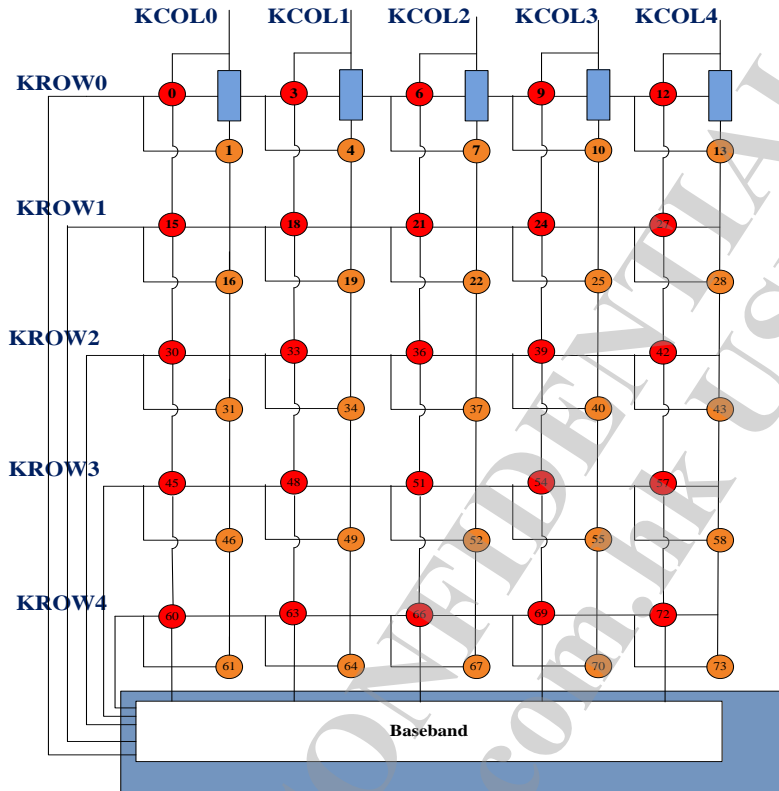
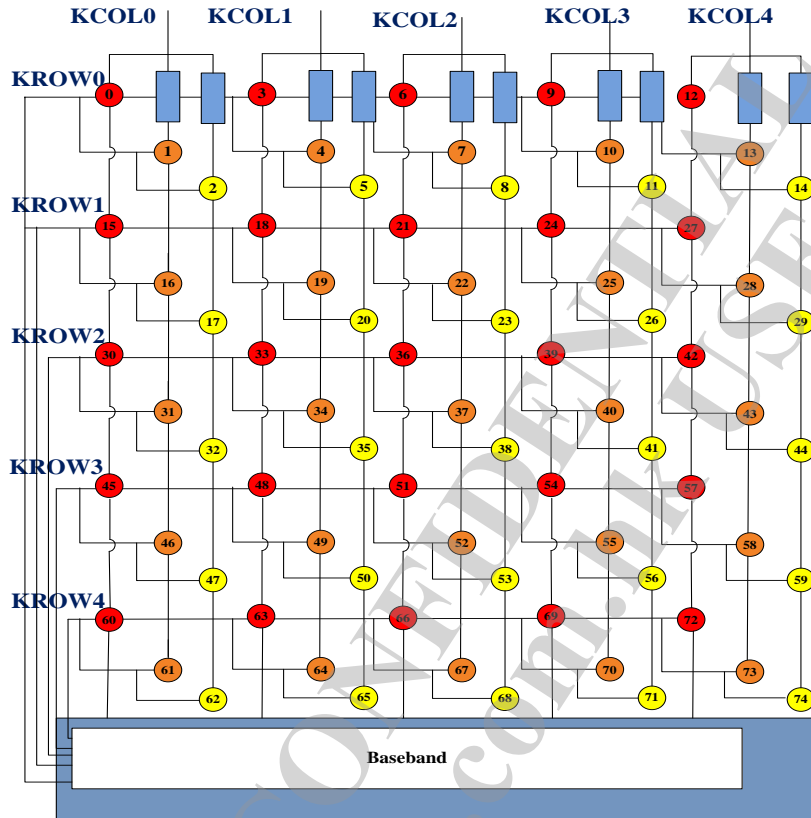

Figure 24. 5x5 double keypad matrix (50 keys)
Figure 25. 5x5 triple keypad matrix (75 keys)
The 5*5 keypad can be divided into two parts: 1) The keypad interface including 5 columns and 5 rows (see Figure 24 and Figure 25); 2) The key detection block providing key pressed, key released and de-bounce mechanisms.
The 5*5 double keypad (Figure 24) supports a $5*5*2 = 50$ keys matrix. The 50 keys are divided into 25 sub groups and each group consists of 2 keys and a off-chip resistor. 5*5 double keypad has another limitation, which is it cannot detect two keys pressed simultaneously when the two keys are in one group, i.e. the 5*5 keypad cannot detect key0 and key1 pressed simultaneously or key15 and key16 pressed simultaneously.
The 5*5 triple keypad (Figure 25) supports a $5*5*3 = 75$ keys matrix. The 75 keys are divided into 25 sub groups and each group consists of 3 keys and two off-chip resistors. 5*5 triple keypad has another limitation, which is it cannot detect three keys pressed simultaneously when the three keys are in one group, i.e. 5*5 keypad cannot detect key0, key1 and key2 pressed simultaneously or key15, key16 and key17 pressed simultaneously.